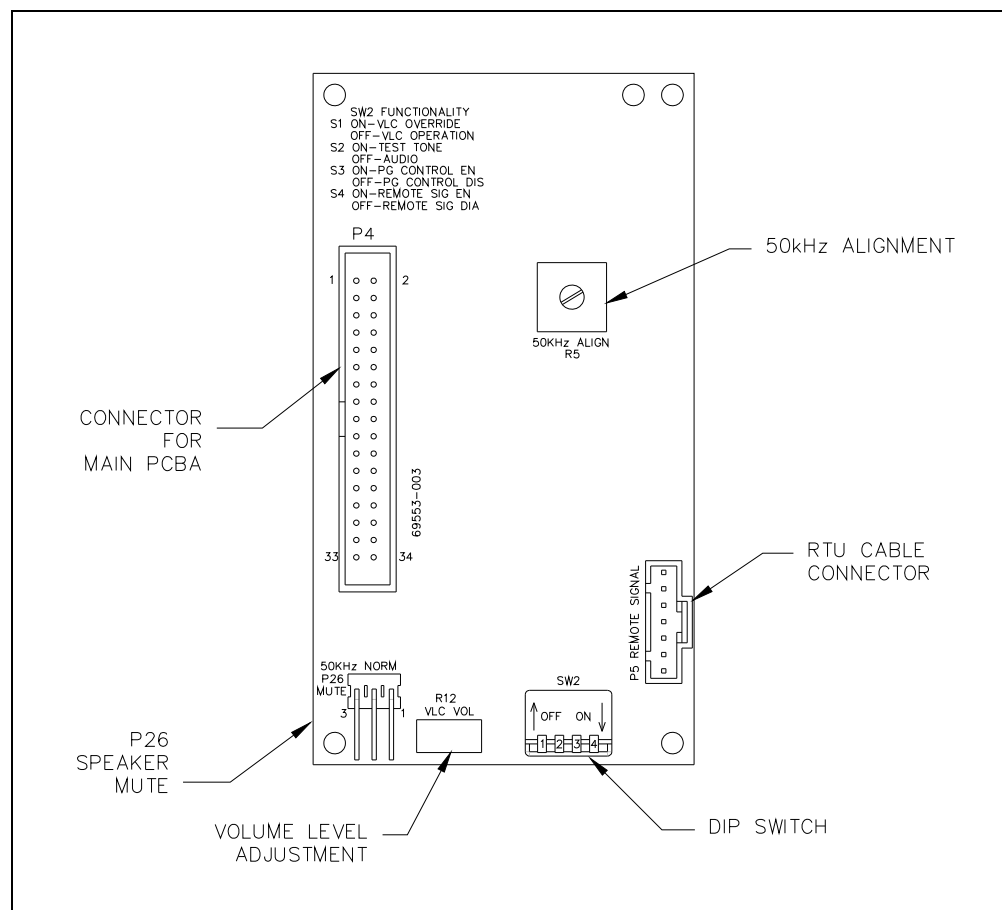

Figure 10. No. 69553 Series VLC PCBA
The No. 69553 VLC (Volume Level Control) PCBA (see Figure 10) adds the capability to remotely control the local speaker volume level. A remote device transmits a 50 kHz signal over the page line when VLC is active. The station detects the 50 kHz signal and switches to an alternate speaker volume setting.
Jumper P26 (see Figure 10) enables muting the speaker audio during VLC or normal operation:
1. Set DIP switch SW2-1 (see Figure 10) to the off position.
1. Set SW2-1 (see Figure 10) to the on position.
Set SW2-3 (see Figure 10) to the on position to disable local paging when the system VLC tone is present.
Set SW2-4 (see Figure 10) to the on position to activate the RTU relay when the system VLC tone is present.